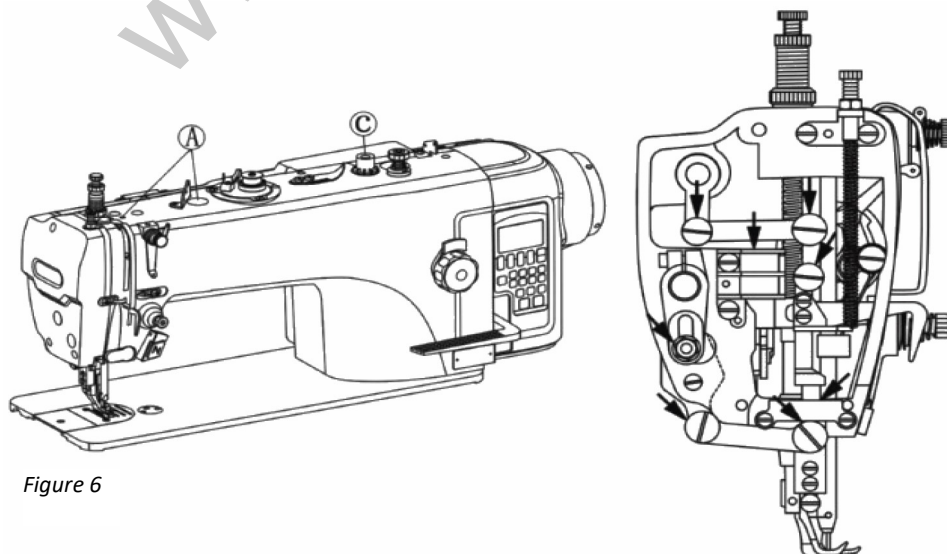

Figure 6
- To replace oil remove screw (C) to drain oil after completely draining off oil.
- To clean the oil tray and to securely tighten screw (C) then to fill the tray with fresh oil.
At the beginning of using the new machine or shelved for a long time, first to un load the upper rubber plug (A) and panel. According to the position of the graphic refueling fully, and then put panel, lift the presser foot and run the machine with for low speed (1000-1500/min) and watch the injection situation of oil window (C). See Fig. 6.